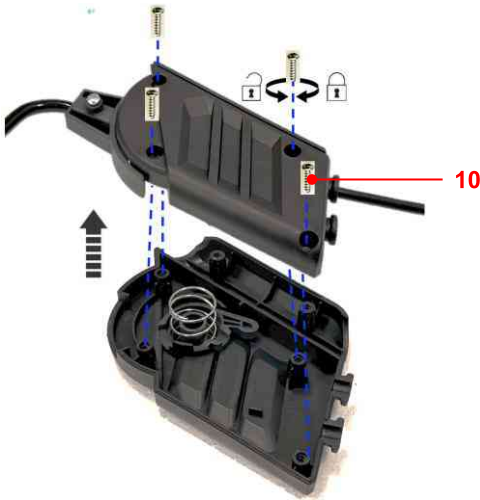

Fig. 15
2. Remove the 4 self-tapping screws ST4.2*16-F (10) using a Philips #2 screwdriver to open the switch box (Fig. 15).